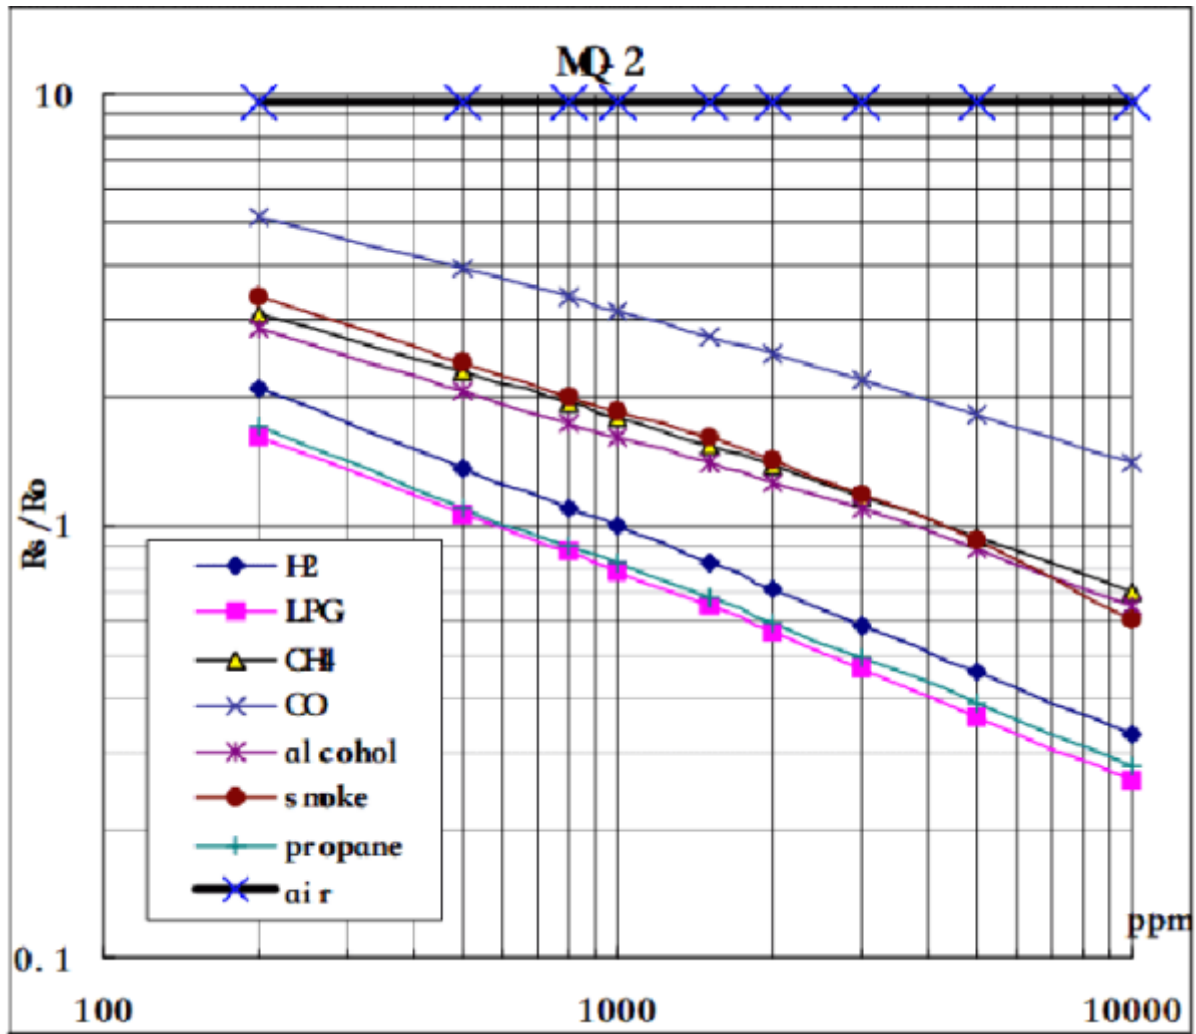

Figure 2.5 MQ2 Sensitivity characteristics. Source: <https://www.mouser.com/datasheet/2/321/605-00008-MQ-2-Datasheet-370464.pdf>
The MQ-2 sensor functions as a voltage divider. The analog voltage output varies accordingly with the concentration of combustible gasses and its interaction with the oxygen, thus yielding a higher voltage proportional to the quantity of the present gas. The sensor cannot determine which gas is present, however the interaction with any of the possible measurable gasses creates a distinct pattern that has been provided by the manufacturers, shown in Figure 2.5. By creating a code that follows the guidelines set by the manufacturer design we can then measure with a small margin of error, the concentration of distinct types of gasses in the air simply by analyzing the resistance ratio of the sensor (RS/R0). ²⁾
- Specified in Figure 2.5 and in the specifications of the manufacturer, the sensor can only read gas concentrations between 200 and 10000ppm.